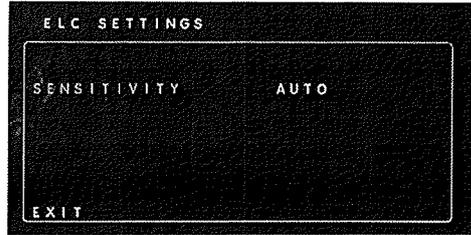

Figure 41.
1. Navigate to **ELC Settings** and press **Select** to select it. The ELC Settings screen (Figure 41) opens.